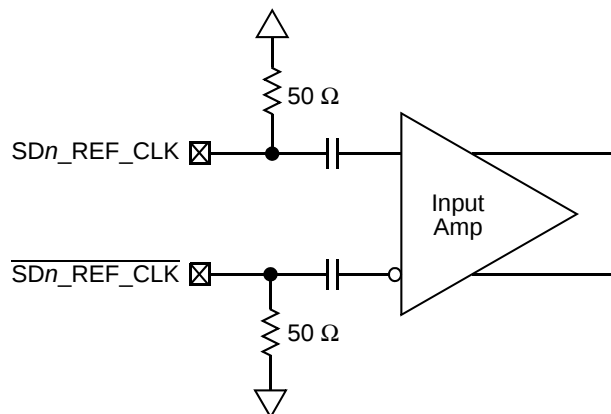

Figure 45. Receiver of SerDes Reference Clocks
Figure 45 shows a receiver reference diagram of the SerDes reference clocks.
- The SDn_REF_CLK and $\overline{\text{SDn_REF_CLK}}$ are internally AC-coupled differential inputs as shown in Figure 45. Each differential clock input (SDn_REF_CLK or $\overline{\text{SDn_REF_CLK}}$) has a 50-Ω termination to SGND_SRDSn (xcovrsvs) followed by on-chip AC-coupling.